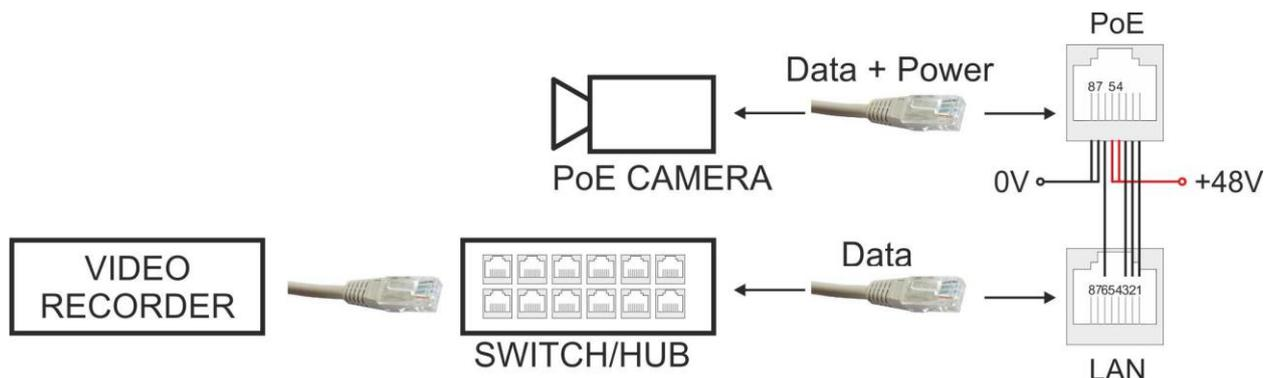

Fig. 4. Connection of cameras and network devices to the LAN and POE terminals.
4. Connect the network cables (Ethernet) to the PoE module: supply voltage is present only at the POE sockets and the cameras should be connected to them. Pin assignment of the LAN and POE sockets is shown in the Figure 4: